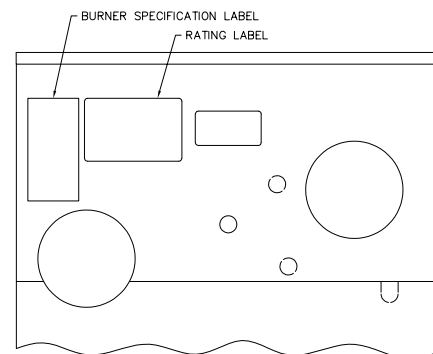

Figure 4.1: Attach Labels to Jacket Front Top Panel
1. Attach labels to the Upper Jacket Front Panel as shown in Figure 4.1.